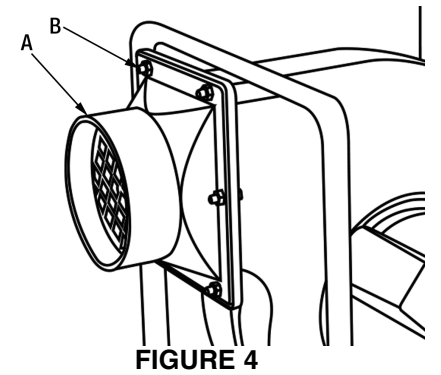

FIGURE 4
Your Vinyl-Vac System is almost completely assembled out of the box. Remove the main machine and components from the box. Install the plastic outlet fitting (A) Fig.4 to the machine as shown using 6 hex. bolts, washers and hex. nuts (B). Install 4 rubber feet (diagram #510) to the bottom of the tube frame.